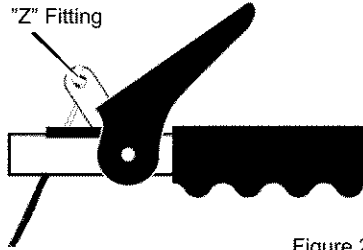

Figure 23
To check for correct adjustment, unhook "Z" fitting at clutch lever (see Figure 23).
5. Disconnect the "Z" fitting from the **drive lever** (see Figure 23).
11. Install the "Z" hook to the **traction drive lever** (see Figure 23).